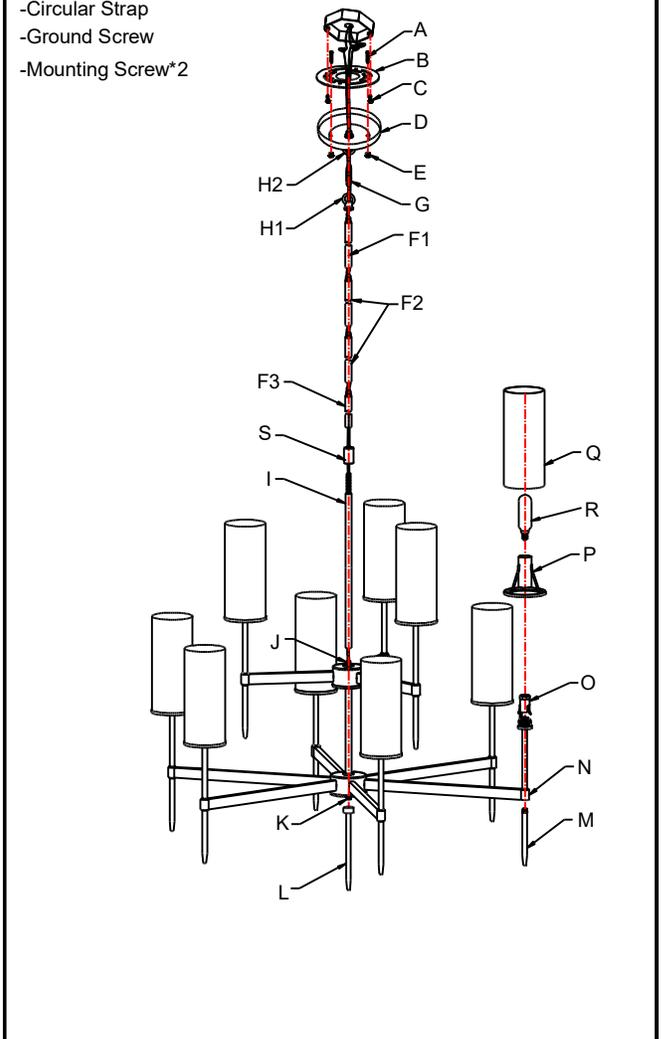

Fig. 3
CONNECTING THE WIRES (Fig. 3)
8. Connect the electrical wires as shown in figure 3, making sure that all wire connectors are secured. If your junction box has a ground wire (green or bare copper), connect the fixture's ground wire to it. Otherwise, connect the fixture's ground wire directly to the circular strap (B) using the green screw provided.
9. Tuck the wire connectors neatly into the junction box and raise the canopy (D) to the ceiling.